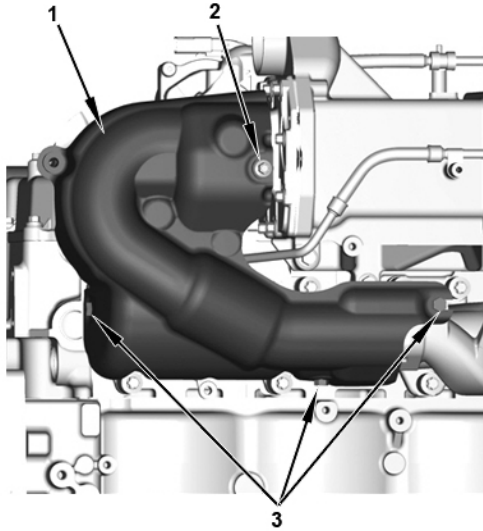

Figure 12 EGR Inlet Tube Heat Shield
17. Remove EGR inlet tube heat shield (1), remove one heat-resistant bolt (2), and remove three M8 x 12 bolts (3) (Figure 12).